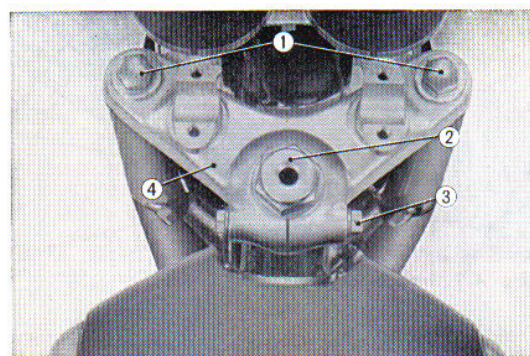

Fig. 4.12 Removing the fork top bridge
4. Separate the fork top bridge from the fork by unscrewing the front fork bolts, loosening the steering stem nut and removing the 8 mm lock nut. (Fig. 4.12)